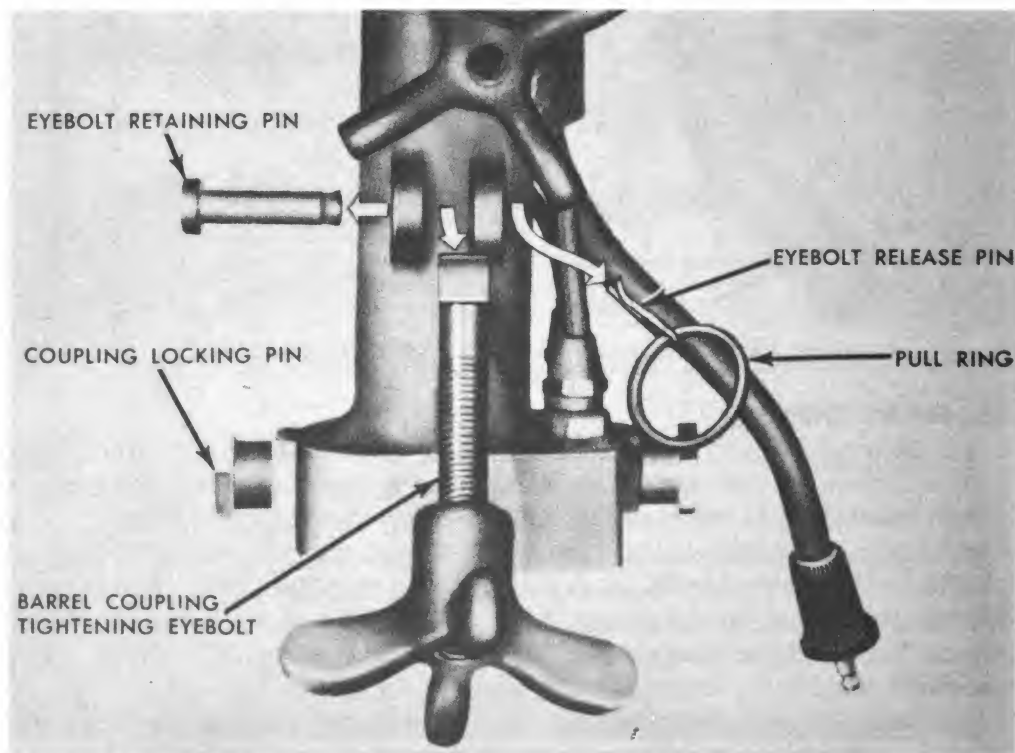

Fig. 63. Exploded view of barrel coupling tightening eyebolt assembly.
b. Removal of barrel coupling tightening eyebolt (fig. 63). (1) To remove eyebolt, separate eyebolt from the retaining pin by grasping pull-ring on the release pin (cotter pin). With a sharp pull, remove the release pin. Push out the retaining pin and lift out the eyebolt.
(2) To install the eyebolt, reverse procedure for removal described in (1) above.